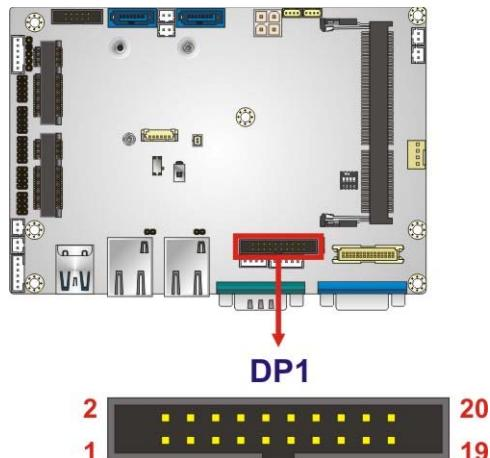

Figure 3-9: Internal DisplayPort Connector Location
**CN Location:** See Figure 3-9